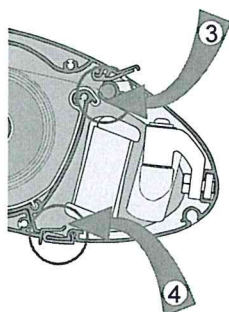

Figure 4
3.5. Adjust the pitch (Fig.4)
3.6. Adjust hinged arm (Figs. 4 and 5)
Note: Check whether the hinged arms come into contact with the profile at the top or bottom when closing the awning (Fig. 4, arrows 3 and 4). If there is any contact between arm and profile, adjustment is required.